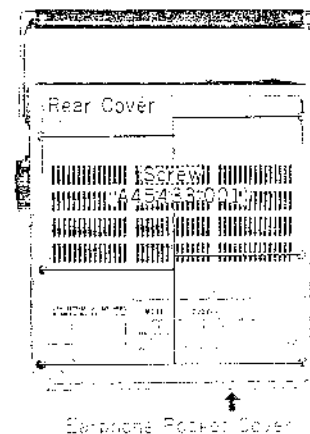

Fig. 5
1. Unfasten 6 screws fastening rear cover indicated in Fig. 5.